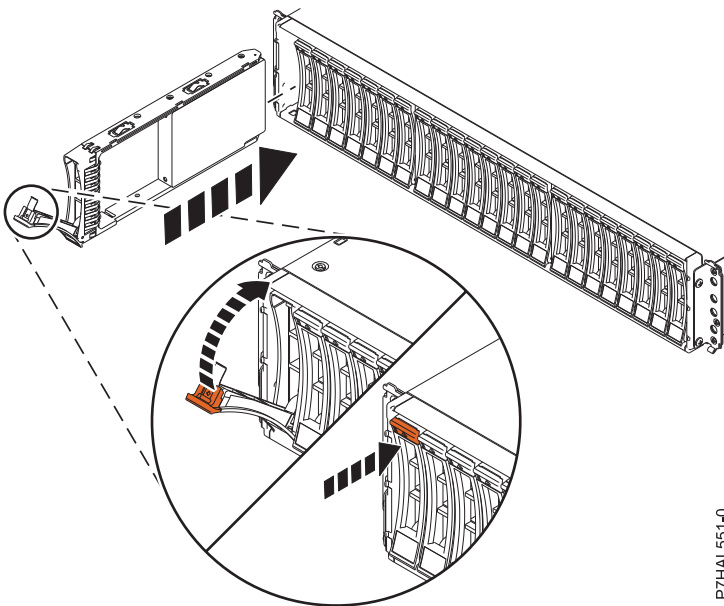

Figure 42. Replacing a disk drive in an enclosure
3. With the handle in the unlocked position, as shown in Figure 42, support the bottom of the drive as you align it with the guide rails in the expansion unit.
8. Lock the drive by rotating the bay handle (A) in the direction that is shown in Figure 42.